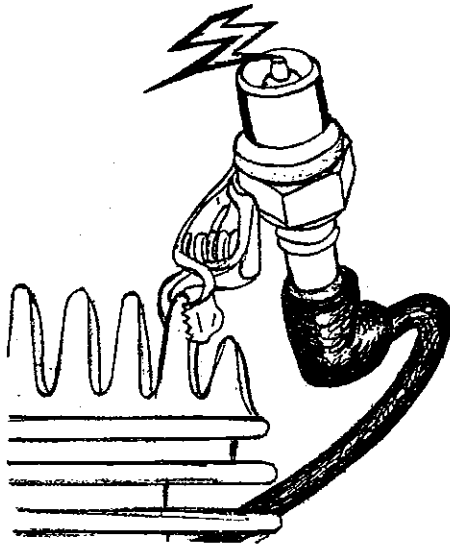

Figure 8
- A. Disconnect the high tension lead from spark plug and attach to test plug which is securely grounded to the cylinder or cylinder head. (See Figure 8.)